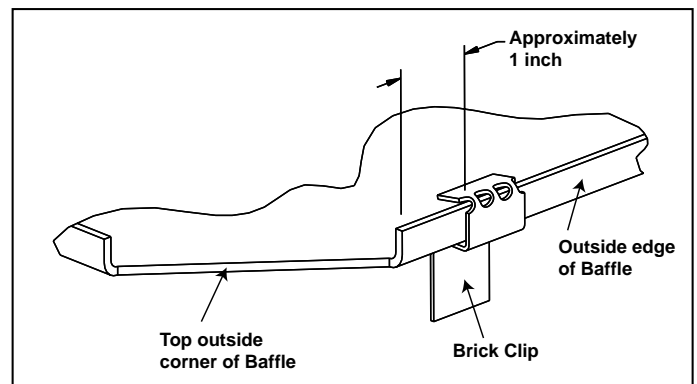
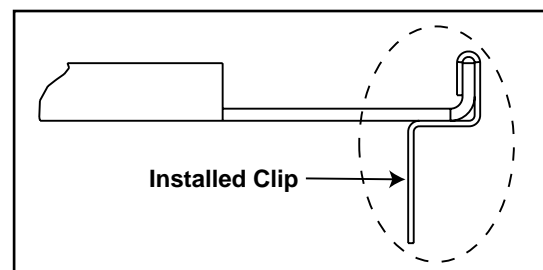

Figure 24.4
Figure 24.5
3. Complete brick set, correctly installed. **Figure 24.4.**
2. Using pliers, bend the brick clip slightly past 90° in the direction shown in **Figure 24.4.**
3. Position the brick clip as shown in **Figure 24.4** and use pliers to crimp around the outside edge of the baffle. **Figure 24.5** shows the finished shape of the brick clip after being bent around the outside edge of the baffle.